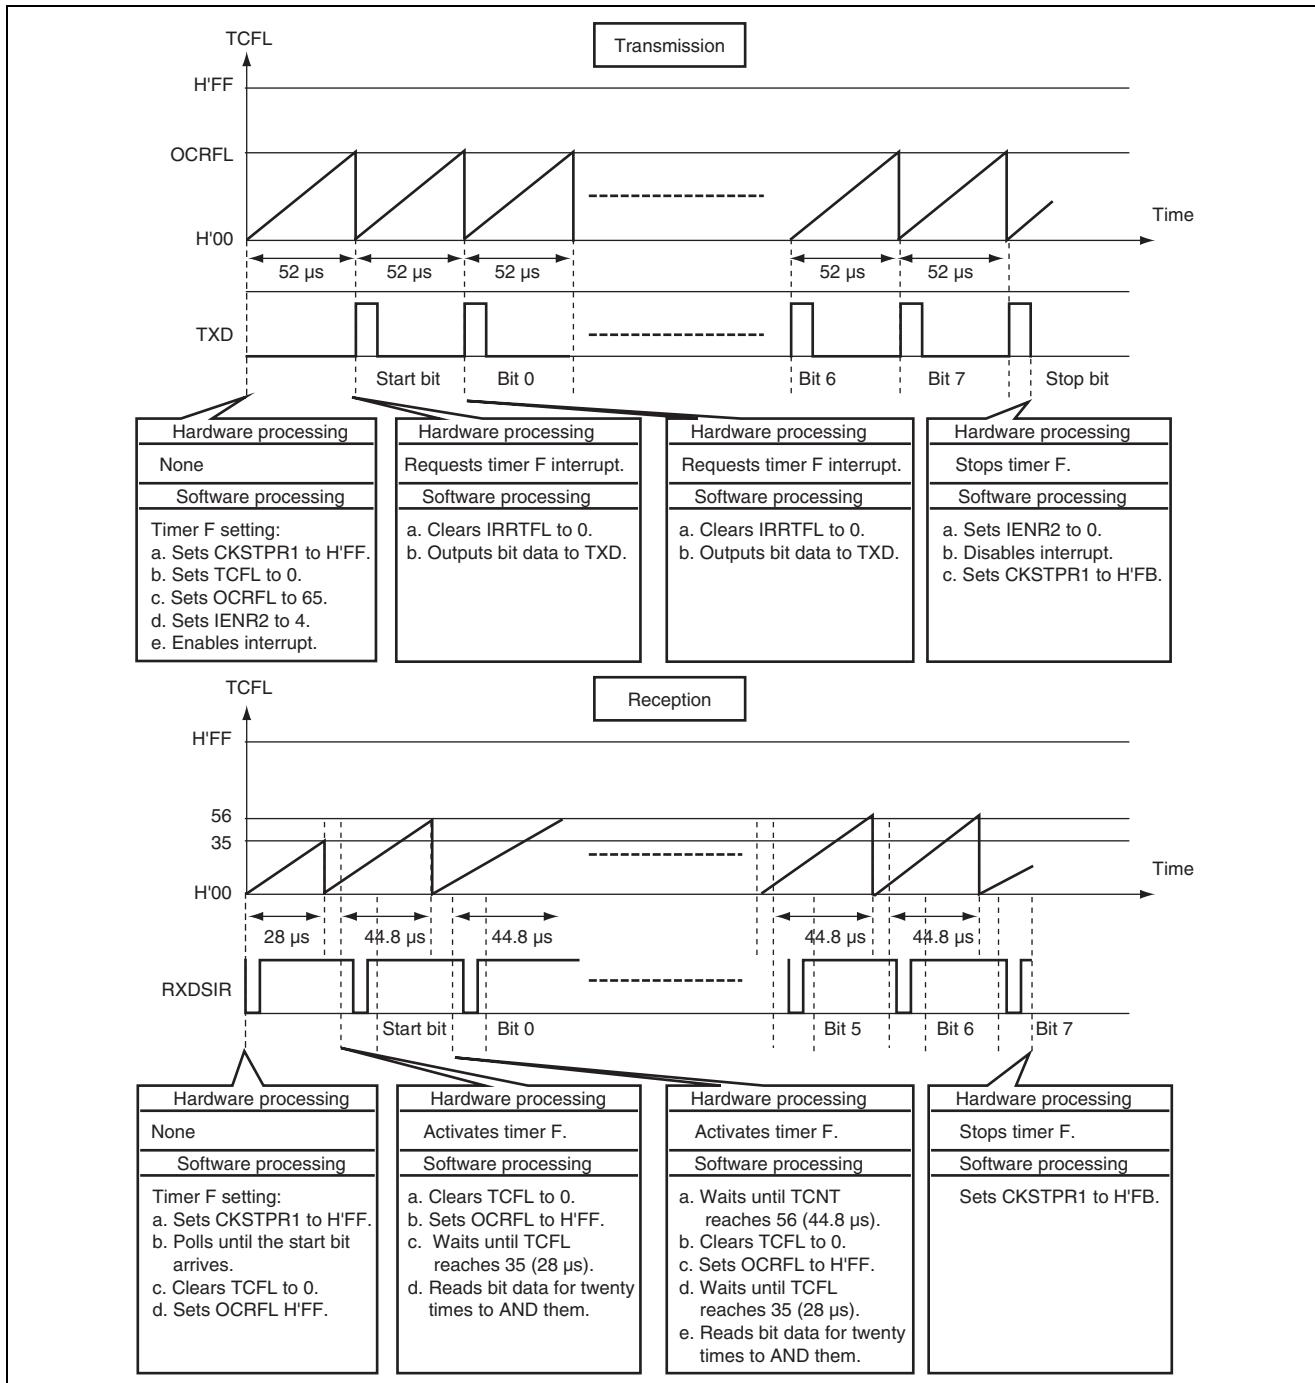

Figure 3.1 Principle of Operation of Infrared Ray Communication Using Timer F
- Figure 3.1 shows the principle of operation when infrared ray communication is performed using the timer F. Transmission is performed through a timer F compare-match interrupt, and reception is performed by using a TCFL value without using an interrupt.